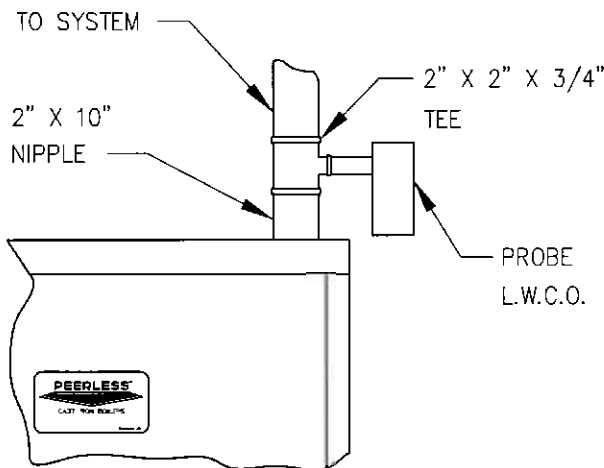

Figure 27: Probe LWCO Location for Hot Water Boiler
1. Install a 2" x 10" inch or longer nipple in the boiler supply tapping. Install a 2" x 2" x 3/4" tee on the nipple. See figure 27.